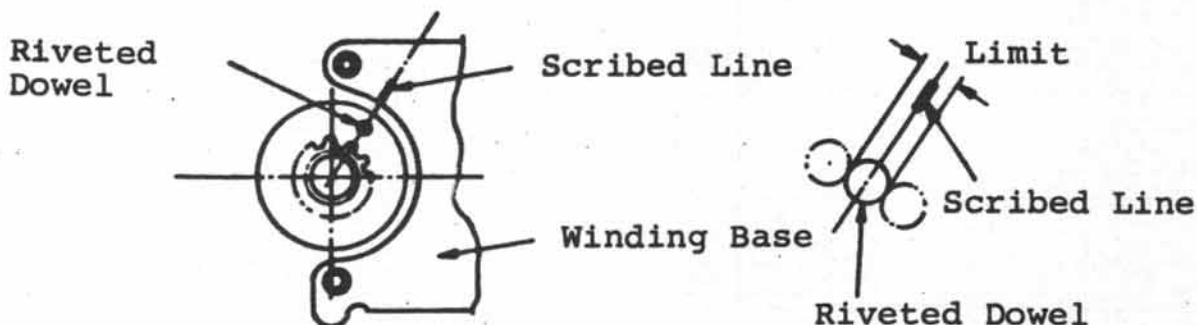
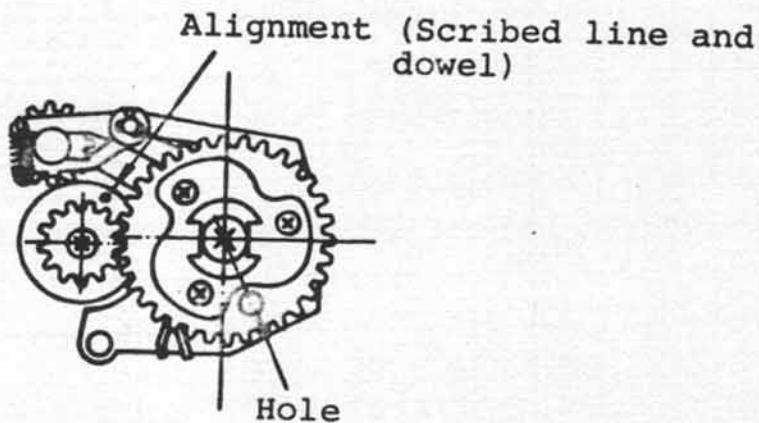

Fig. 2-15
Fig. 2-20
(CF1-0231-000) as shown in figure 2-15. The limit is  $\pm 1/2$  the dowel diameter.
2. Recheck the alignment of the dowel and scribed mark detailed in section 2.13 (Fig. 2-15) after having installed the charge gear with the screw access hole positioned as shown in figure 2-20. Adjust to maintain the position by selecting a charge gear that gives the correct alignment.